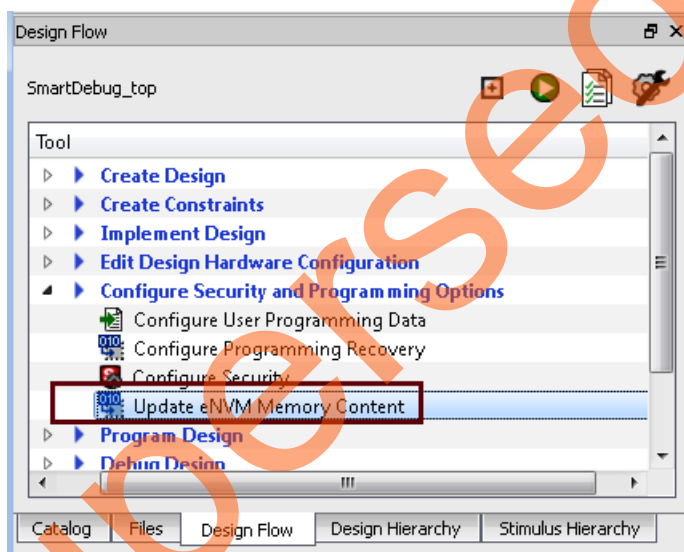

Figure 4 • Update eNVM Memory Content in Design Flow Window
- a. On the **Design Flow** window, double-click **Update eNVM Memory Content** as shown in Figure 4.